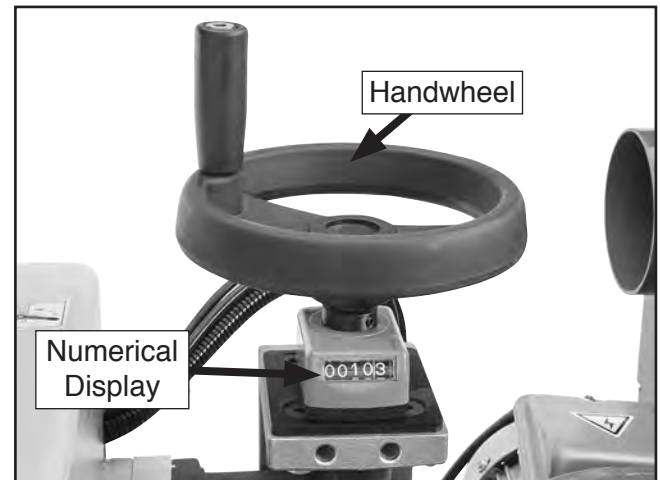

Figure 47. Panel feeder elevation handwheel with numerical display.
3. Rotate panel feeder elevation handwheel until numerical display on base of handwheel matches measurement from **Step 1** (see **Figure 47**). Rotate handwheel *clockwise* to raise panel feeder; rotate handwheel *counterclockwise* to lower panel feeder.